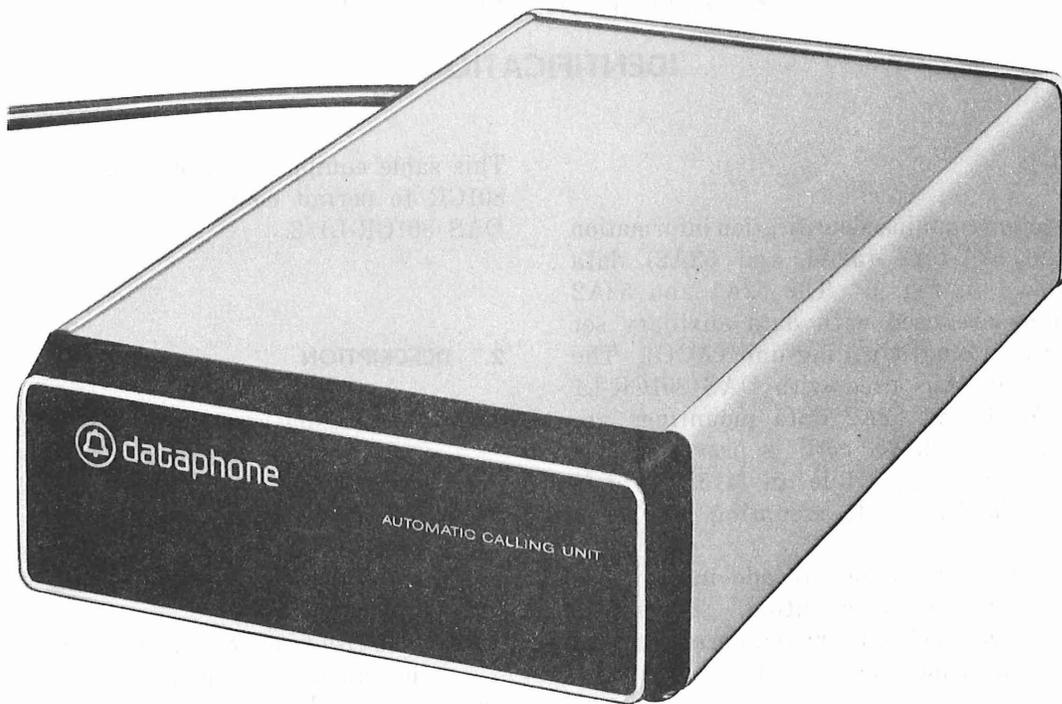

Fig. 1—52A-Type Data Mounting
1.01 This section contains identification information for the 52A-type (52A1 and 52A2) data mounting shown in Fig. 1. The 52A1 and 52A2 data mountings are used with data auxiliary set (DAS) 801C-L1 automatic calling unit (ACU). The 52A2 data mounting is used with DAS 801CR-L1 ACU. The 52A1 and 52A2 data mountings are the same except an M13G cord is provided with the 52A1 data mounting while an M15H cord is provided with the 52A2 data mounting.